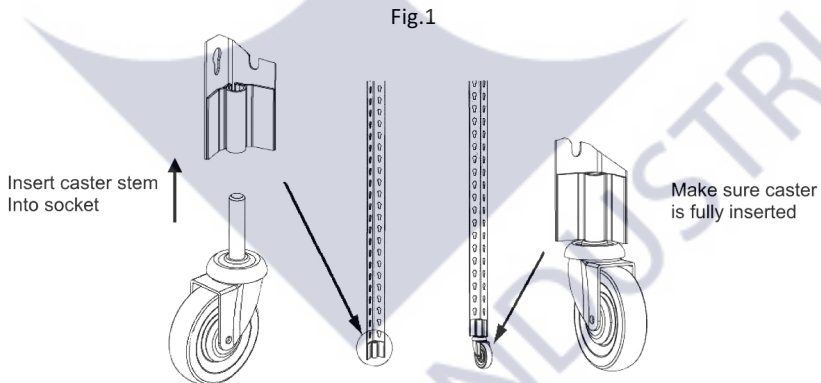

Fig.2
3. Take two of the uprights with locking castors and insert long beam between the two uprights at the top and bottom. (See fig.2) Ensure the beams are the correct way up (See fig.2A/B) and seated correctly, use a soft faced mallet to tap the beams home.